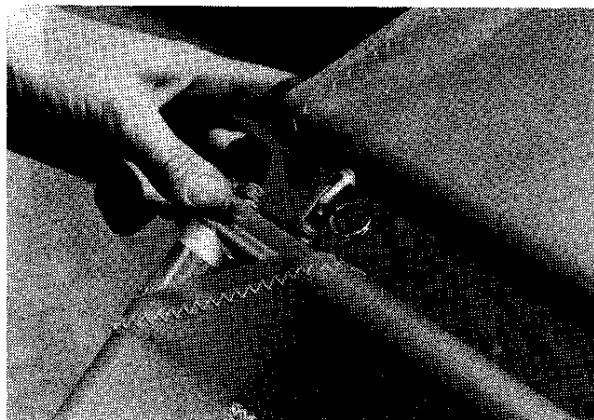

Figure 2.51
- 57.** Attach elevator eyebolts to forks using (3) 3/16" clevis pins and safety rings. Be sure (2) outside pins point inward, with safety rings inboard. **Figure 2.51**